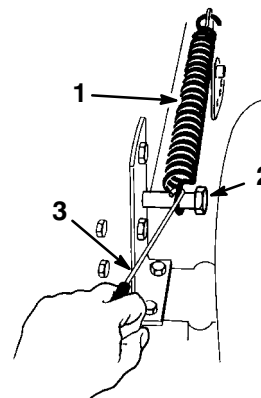

Figure 36
3. Remove the height-of-cut lift assist spring from the retaining bolt (Fig. 36), using the spring tool provided with the machine. The spring is between the frame and the right rear wheel.
12. Move the height-of-cut lever (deck lift) into the “D” notch. Hook the lift assist spring onto retaining the bolt for storage (Fig. 36).